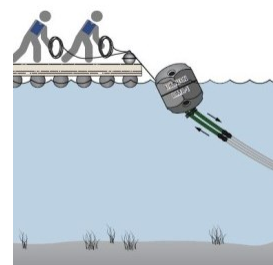

Fig. 8
- The water heat exchanger is moved floating to the installation position (Fig. 8).